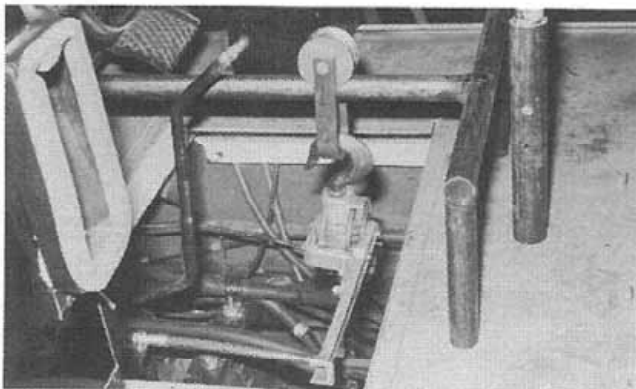
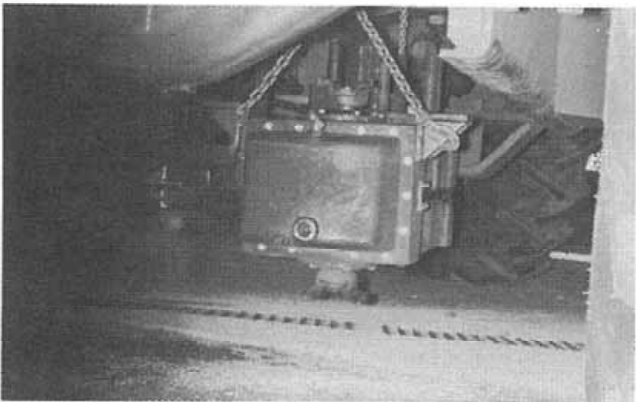

Figure 1:
Figure 2:
2. Position the two lift stands, roller/yoke assemblies and hoists over the cab openings (Fig. 1). Attach a short chain to the lower transfer case mount brackets. Hook the front hoist to the short chain and remove all slack. Attach the rear hoist to the lifting fixture. Now lift the assembly with both hoists (Fig. 2).